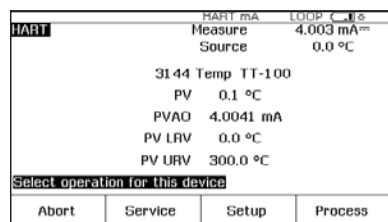

Figure 11.
1. Power on the Fluke 754 Calibrator. Press the red key followed by the **Loop Power** softkey. Press **ENTER** to bypass the warning screens and the 754 will display the basic HART information for the 3144 (Figure 11).